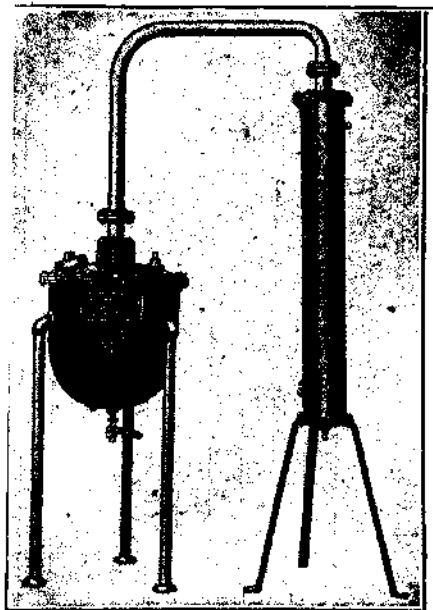

FIG. 30.—Industrial Distillation Apparatus.
14. Draw a diagram of Fig. 30 and label parts.